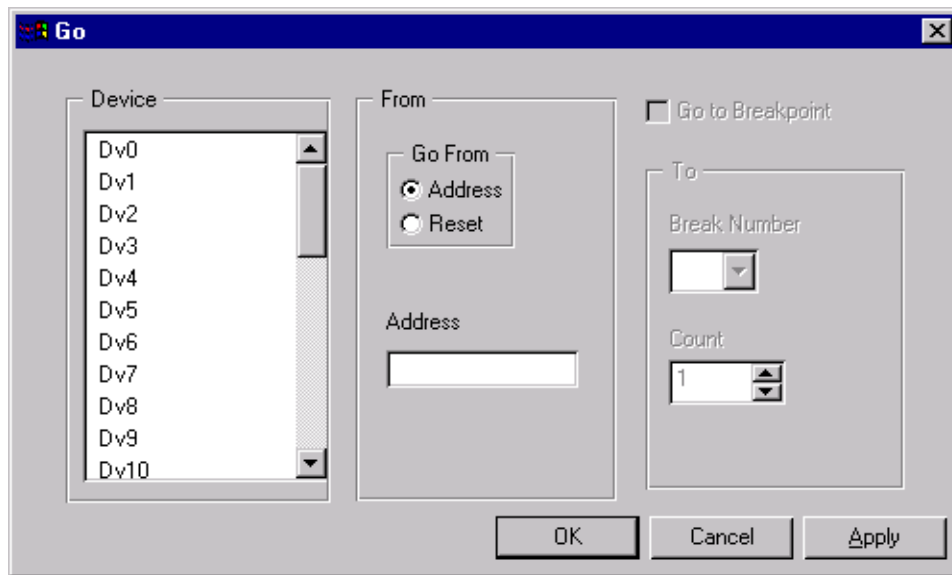

Figure 3-1. Executing Instructions with Go
1. From the **Execute** menu choose **GO..** The Go dialog box in Figure 3-1 appears.